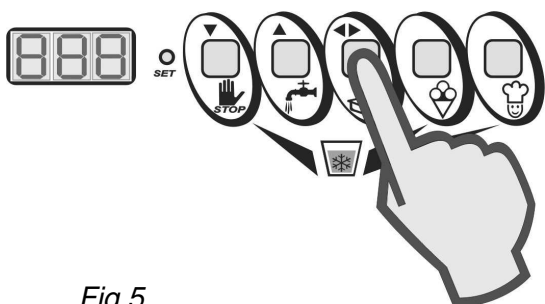

Fig.5
- Press the CONFERMA (CONFIRM) key (◀▶) to validate the new data and exit programming (Fig. 5).